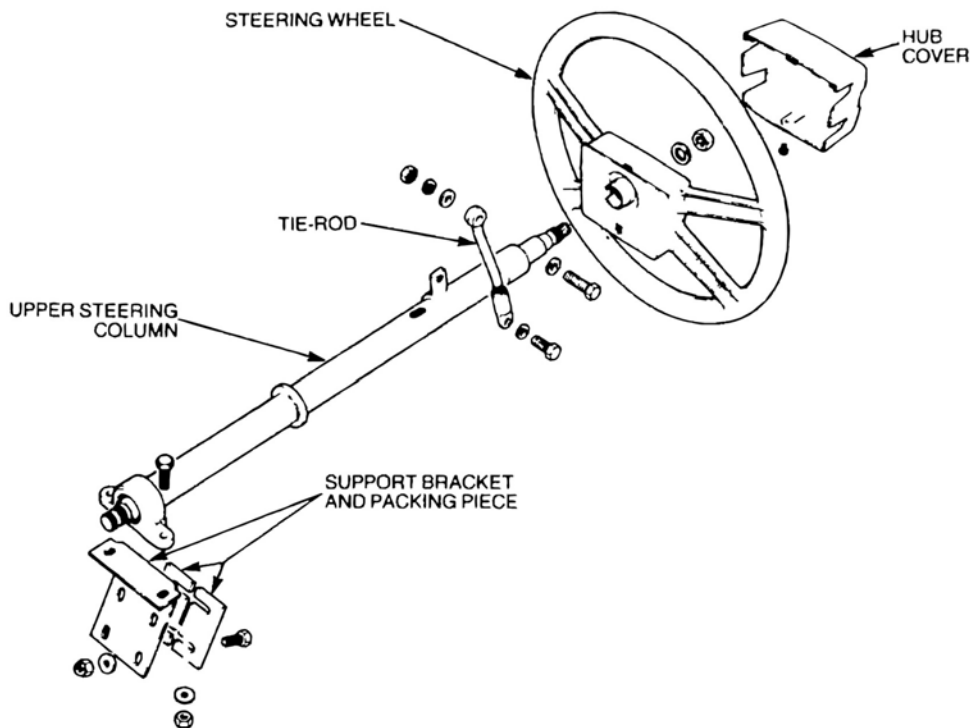

Figure 14 Steering Wheel, Column and Upper Shaft Assembly
44. **Steering Shaft.** The steering wheel is connected to the power steering box by a three-piece shaft. The upper section of the shaft (to which the steering wheel is secured) is housed within the steering column and supported by means of a roller bearing at the top of the column and a ball bearing at the bottom. In turn, the upper end of the steering column is mounted by means of a rod to the bulkhead, while the lower end is secured to a bracket on the firewall by means of a U-shape clamp, which is positioned over the ball bearing (Figure 14).